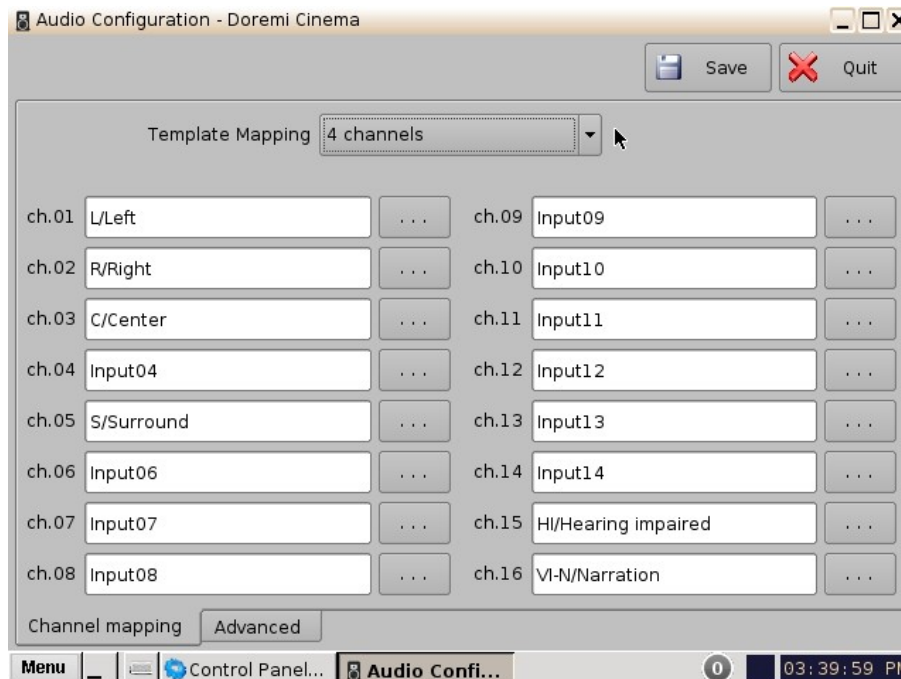

Figure 30: Audio Mapping Set to 4 Channels
- This configuration is defined as follows (Figure 30):
- **ch.01 is Left (L):** Output ch.01 will be playing the CPL's Left (L) audio channel.
- **ch.02 is Right (R):** Output ch.02 will be playing the CPL's Right (R) audio channel.
- **ch.03 is Center (C):** Output ch.03 will be playing the CPL's Center (C) audio channel.
- **ch.05 is Surround (S):** Output ch.05 will be playing the CPL's Surround (S) audio channel.
- **ch.15 is HI:** Output ch.15 will be playing the CPL's Hearing Impaired (HI) audio channel.
- **ch.16 is VI:** Output ch.16 will be playing the CPL's Narration (VI) audio channel.